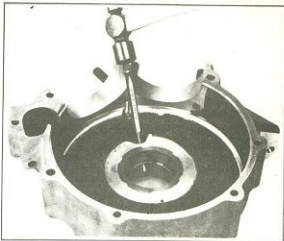

Figure 3-39. Removing Lock Ring
7. If left main bearing is to be replaced, tap out bearing races (11 and 13) from opposite sides of crankcase hole, using a brass drift and hammer. If bearing set is being replaced, remove lock ring spacer (12) using a 1/8 in. pin punch or similar tool. Rotate lock ring in groove so that one edge covers oil hole. Insert tool into oil hole with tapered end underneath lock ring. Tap on tool to force one end out of groove as shown in Figure 3-39. Starting at this free end, push ring out of bearing bore.